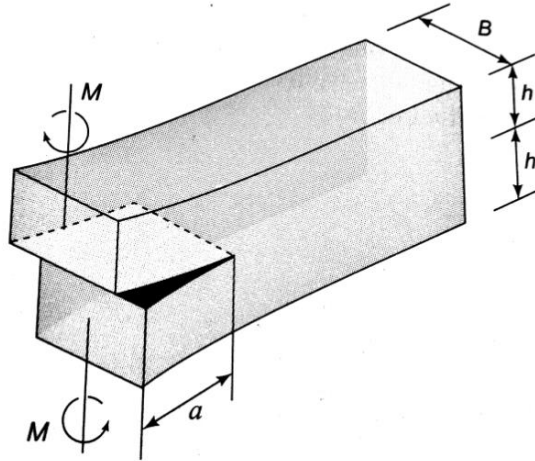

Figure 4d
- d) Determine the energy release rate for an edge cracked loaded as shown in the figure 4d. **05**